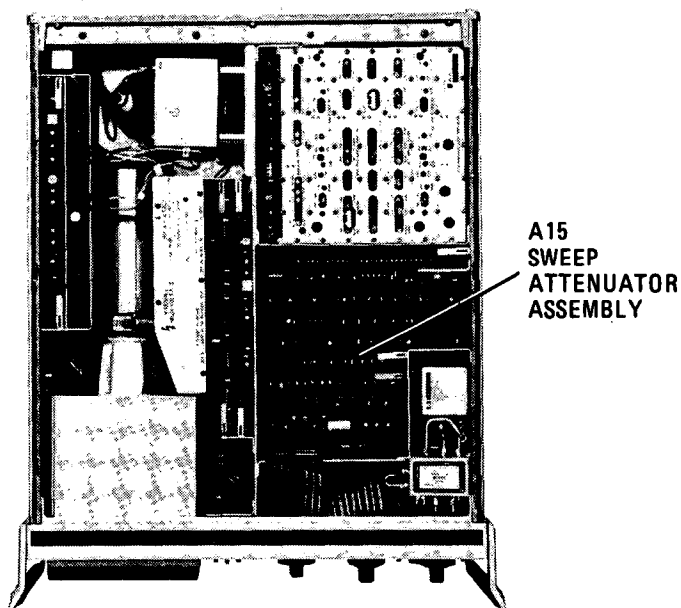

Figure 5-39. Sweep Attenuator Adjustment Locations
5. Switch FREQUENCY SPAN/DIV to 5 MHz and adjust A15R53 MAIN SWP OFFSET (Figure 5-39) to center 100 MHz signal on CRT display.